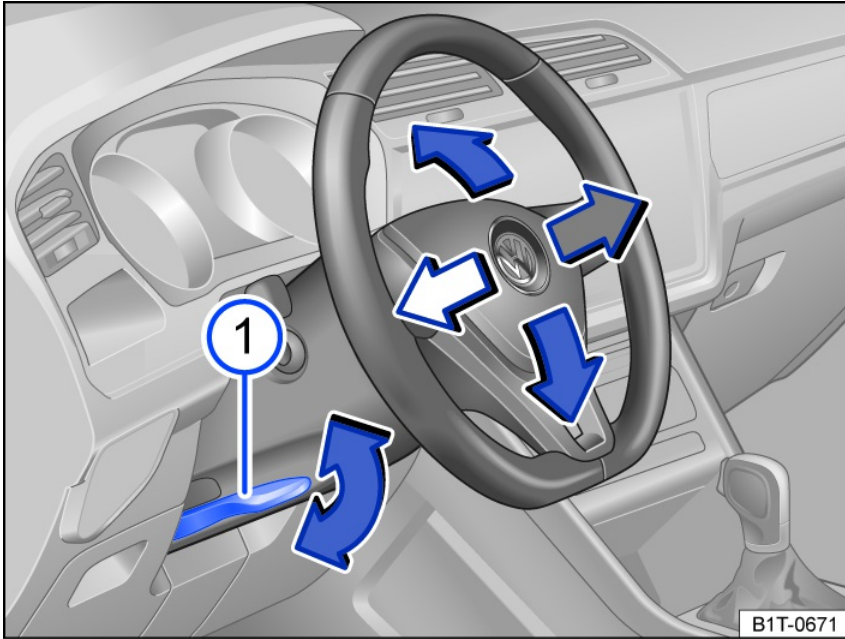

Fig. 65 Under the steering wheel in the steering column trim panel: lever to adjust the steering wheel position manually.
- Tilt the lever fig. 65 downward.
- Always push the lever fig. 65 ¹ upward into its locked position after adjusting so that you do not change the steering wheel position unintentionally while driving.